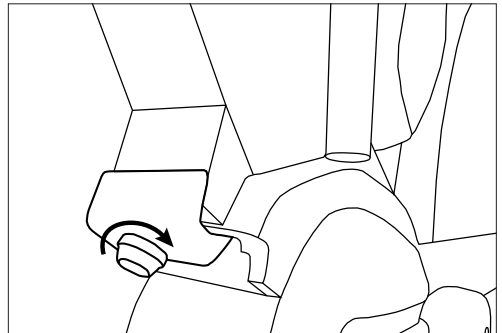

Fig. 45: Tighten frame quick release adjusting nut
Note: When closing, if the quick release lever does not leave an imprint on the palm of your hand, refer to Adjusting the Frame Quick Release below (Fig. 45).
2. Open the quick release lever so the lever is pointing upward. Tighten the adjusting nut by turning it clockwise by 1/4 turn (Fig. 45).
3. Close the lever. If there is too much resistance for you to be able to close the lever, open, and turn the adjusting nut counter-clockwise 1/4 turn and try to close again (Fig. 45).